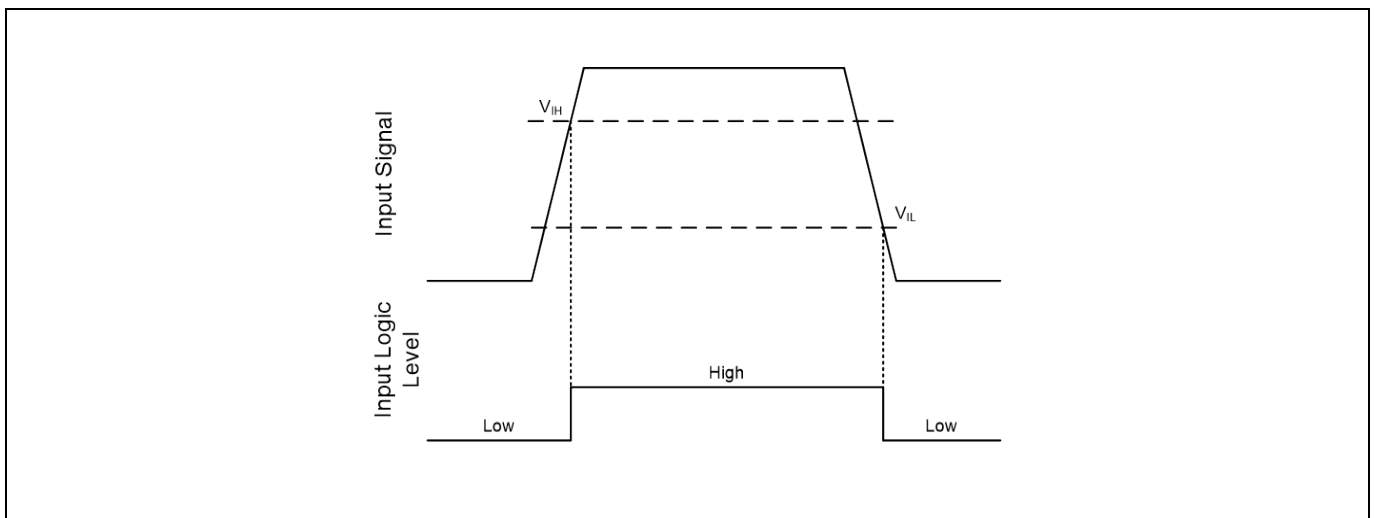

Figure 11 IN & /SD input thresholds
The input pins are based on a TTL and CMOS compatible input-threshold logic that is independent of the V_{CC} supply voltage. Figure 11 illustrates an input signal to the 2ED2109 (4) S06F (J), its input threshold values, and the logic state of the IC as a result of the input signal. The typical high threshold (V_{IH}) of 2.1 V and typical low threshold (V_{IL}) of 0.9 V. The input pins are conveniently driven with logic level PWM control signals derived from 3.3 V and 5 V digital power-controller devices. Wider hysteresis (typically 0.9 V) offers enhanced noise immunity compared to traditional TTL logic implementations, where the hysteresis is typically less than 0.5 V. 2ED2109 (4) S06F (J) also features tight control of the input pin threshold voltage levels which eases system design considerations and ensures stable operation across temperature. The 2ED2109 (4) S06F (J) has input pins that are capable of sustaining voltages higher than the bias voltage applied on the V_{CC} pin of the device.